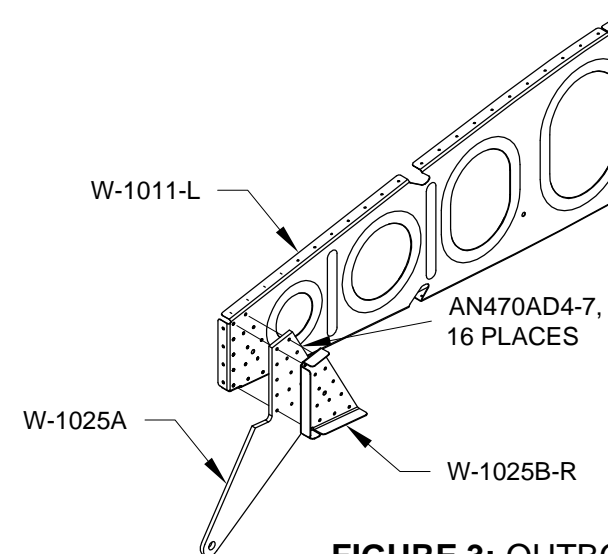

FIGURE 3: OUTBOARD FLAP HINGE ASSEMBLY
Step 5: Cleco the W-1025B-R Flap Hinge Rib and W-1025A Flap Hinge Bracket to the W-1011-L Inboard Wing Rib. Rivet the flap hinge rib and flap hinge bracket to the inboard wing rib as shown in Figure 3. Repeat this process to create two assemblies using the W-1011-L Inboard Wing Rib.